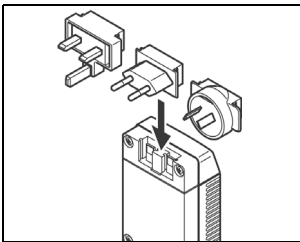

Fig 4 SNT-121A Adapter/Charger.
- Slide a different AC line plug adapter into the slot (see Fig 4).